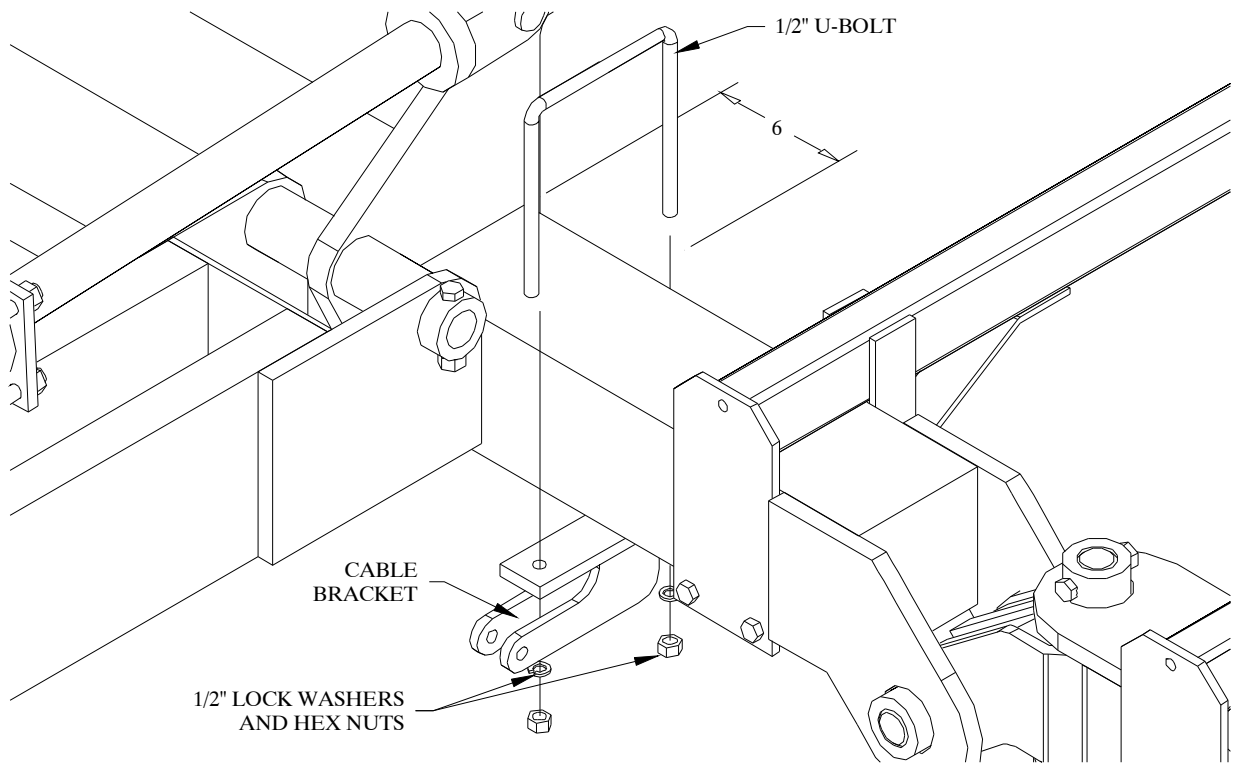

Figure 29
1. Attach the cable bracket to the center bar 6" from the cylinder hinge plate. Refer to Figure 29. Use two $\frac{1}{2}$ " x 7" x 8 $\frac{3}{4}$ " u-bolts, lock washers and hex nuts.